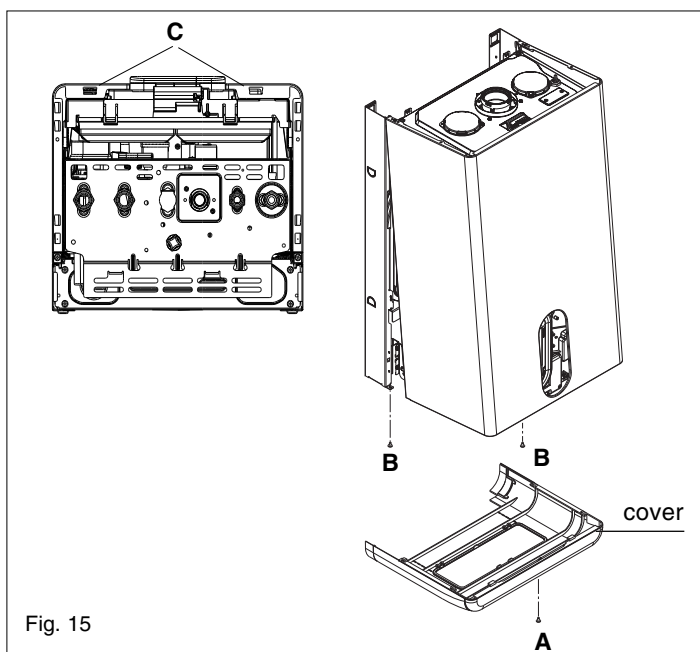

Fig. 15
4.7.1 CASING REMOVAL (fig. 15)